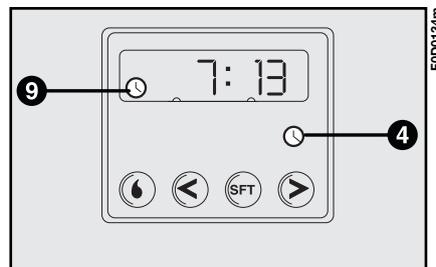

fig. 88
- Press button **4**: display and warning light **9**-fig. 88 will light up.
Reading the clock fig. 88